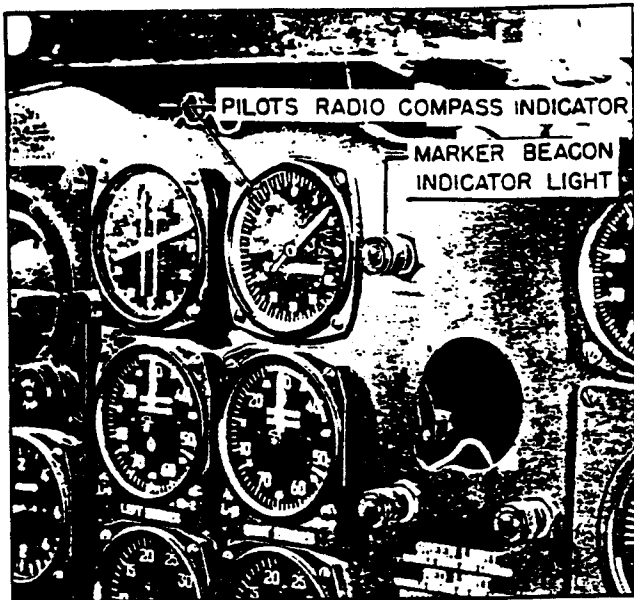

Figure 19. Pilot's Radio Compass Indicator
3. PILOT'S INDICATOR I-81. (See figure 19.)